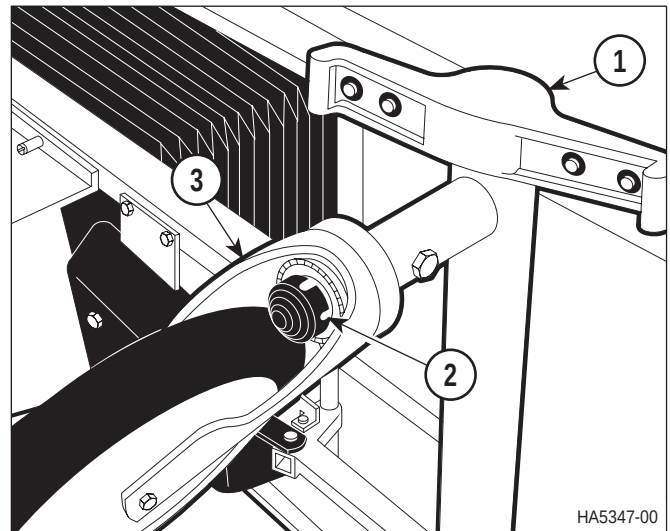

**Figure 4-24. Caster Brake Adjustment
- (1) Depress the caster control pedal (1, Figure 4-24) to the neutral position.
- (2) If the brake needs tightened, use a punch to *unscrew* the plastic brake shoe (2) 1/4 turn, which moves the plastic brake shoe downward.
- (3) If the brake needs loosened, use a punch to *screw in* the plastic brake shoe (2) 1/4 turn, which moves the plastic brake shoe upward.
- (4) Depress the caster control pedal (1) to the brake position and check the braking action of the caster assembly (3).
- (5) Repeat steps 1 thru 4 until brakes are adjusted properly.